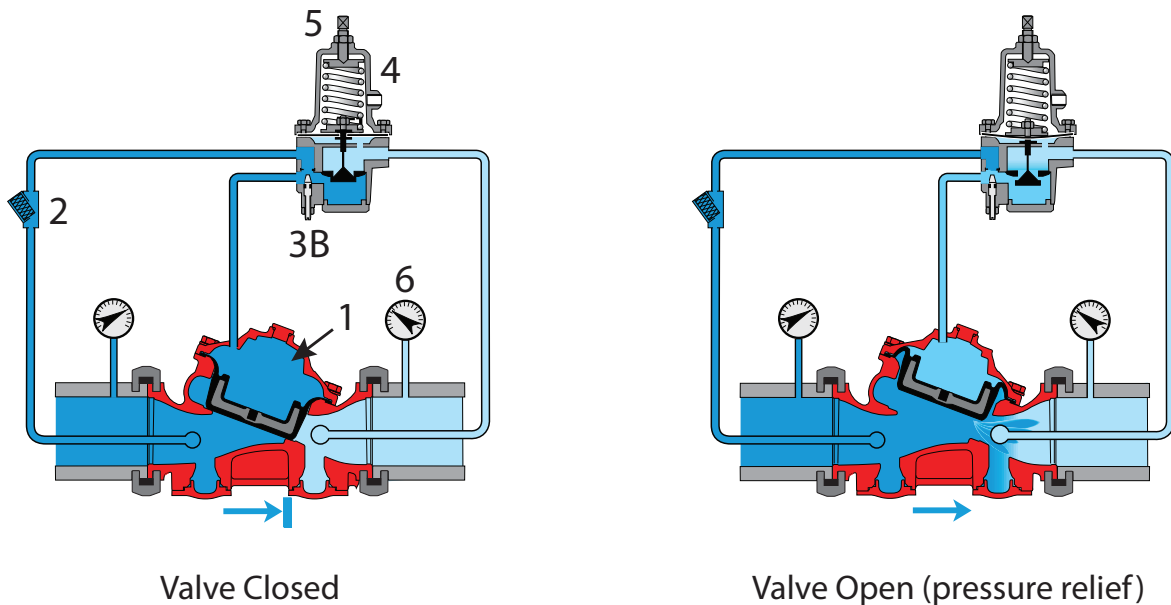

Figure 2 Operation Drawings
The 867-42T-20 reduces water pressure from a high inlet pressure to a lower, pre-set outlet pressure. The outlet set pressure can be adjusted with the pilot valve adjusting screw (Figure 2, call out 5). The valve operates under both flow and static conditions. The pressure-reducing pilot valve (Figure 2, call out 4) senses changes in outlet pressure (Figure 2, call out 6) and modulates the control valve to maintain the pre-set outlet pressure.
When outlet pressure rises above the pre-set pressure, the pilot valve throttles, enabling pressure to accumulate in the control chamber (Figure 2, call out 1). This causes the control valve to close further and reduce outlet pressure. When outlet pressure falls, the pilot valve opens wider, releasing pressure from the control chamber. This causes the control valve to open wider and increase outlet pressure. An integral restrictor (Figure 2, call out 3A) controls the valve's closing speed. For 8-inch/DN200 and larger size valves, an adjustable needle valve (Figure 2, call out 3B) is provided.
When performing this procedure, refer to Figure 2.
3. Free the tension between the adjusting screw on the pressure reducing pilot valve (Figure 2, call out 4) and the fastening nut by turning the fastening nut counterclockwise.
3. The fastening nut of the pilot valve adjusting screw (Figure 2, call out 5) shall be fastened tightly.